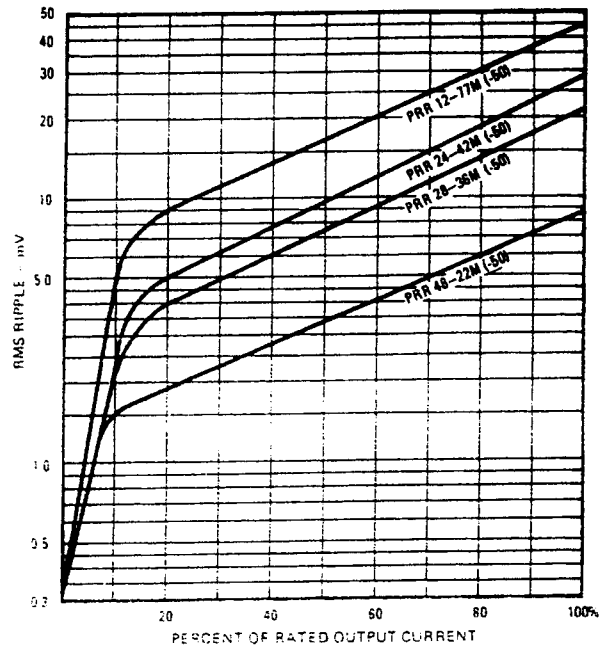

FIG. 3 TYPICAL OUTPUT RIPPLE CURVES FOR PRR MODELS
RIPPLE and NOISE: See Table 1 for maximum rms values and the graph in FIG. 3 for typical data.
2. Disregard Fig. 3